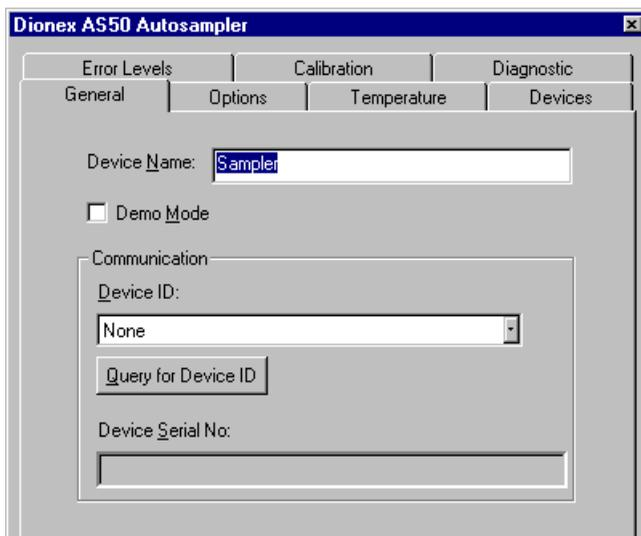

Figure B-16. AS50 Configuration Properties
4. Click **OK**. A configuration properties dialog box for the device appears. Figure B-16 shows an example of the properties for an AS50 Autosampler.